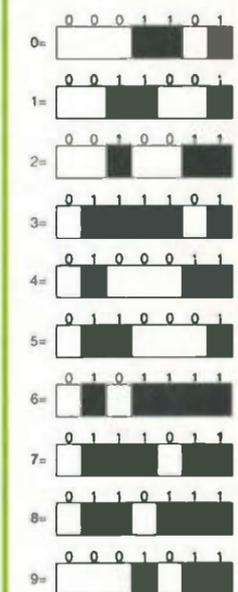
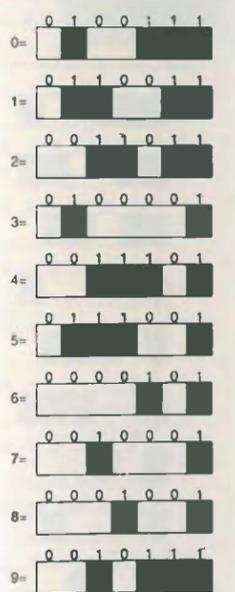
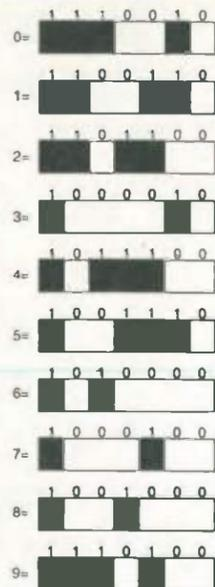

Fig. 2. Bar code 'Table A', top, and the same table converted to a number, below.
Fig. 3. Bar code 'Table B', top, and its related numbers, below.
Fig. 5. Bar code 'Table C', top, and decoded numbers, below.
If you look at a typical EAN-13 bar code number, the 5 (first number of the UK 50 country prefix) is shown on the left before the guide bars. The first country prefix number is not directly incorporated as bar stripes but is encoded by the choice of which characters are taken from Fig. 2 or Fig. 3 for a given position. These are often referred to as Table A and Table B.
For example, UK bar code use the sequence 'ABBAAB' to signify the number 5, Fig. 4. The first number to be coded (0) is taken from Fig. 2. The second and third numbers use Fig. 3, and so on. Similarly the table sequence 'ABBABA' is used to denote the number 9 – used for magazines and books.
Only twelve numbers are actually encoded in the bar-code stripes. The last six numbers are taken from Fig. 5 (i.e. Table C). Definitions in this table are the reverse of those in Fig. 3.